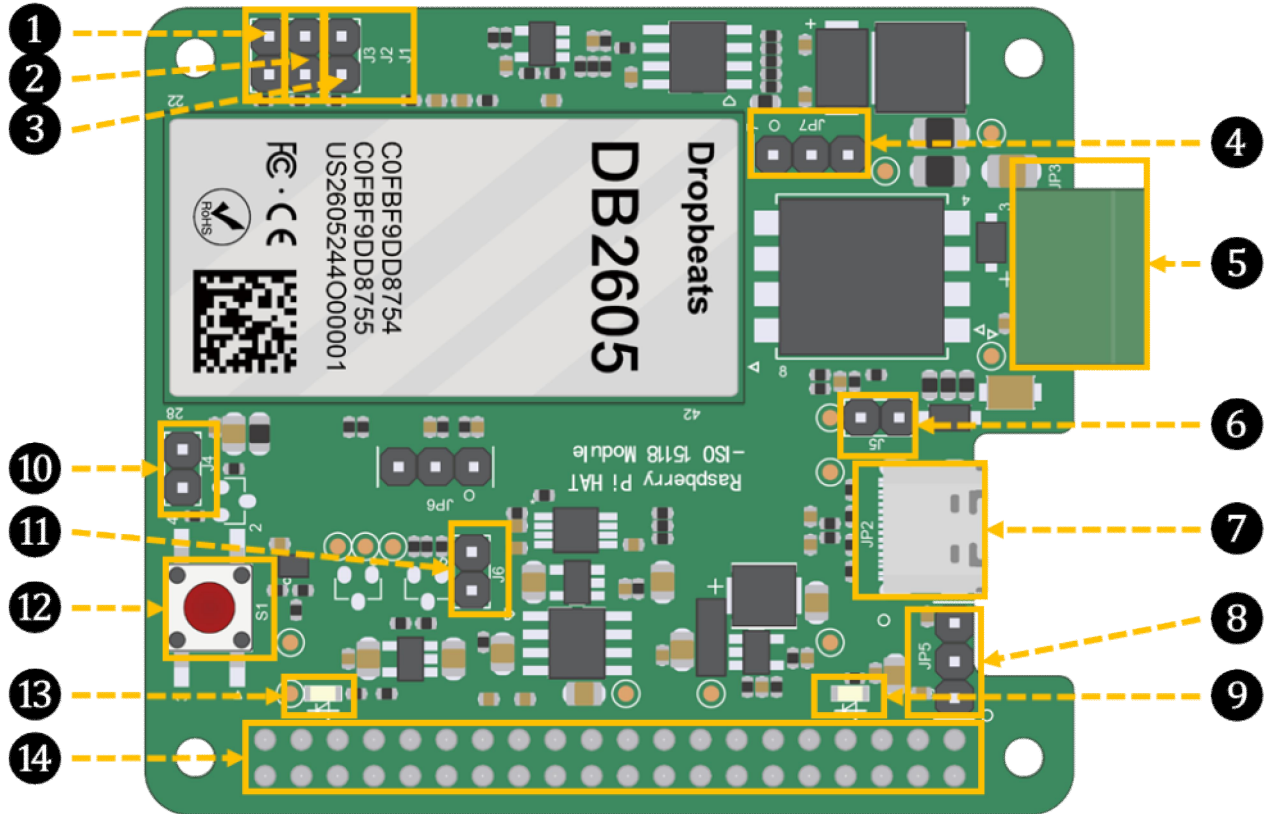

Figure 2 – DB2605 EV Charging HAT Connectors, Interfaces, and Jumpers
Figure 2 depicts the DB2605 EV Charging HAT's connectors, interfaces, jumpers, pushbuttons, and LEDs.
Set with jumper at JP5, Figure 2, item 8
Set with jumper at J6, Figure 2, item 11
Set with jumper at J2, Figure 2, item 2
Set with jumper at JP7, Figure 2, item 4
Set with jumper at J5, Figure 2, item 6
Set with jumper at J4, Figure 2, item 10
To upgrade firmware, install jumper at J4, then push Reset button (Figure 2, S1, item 12).